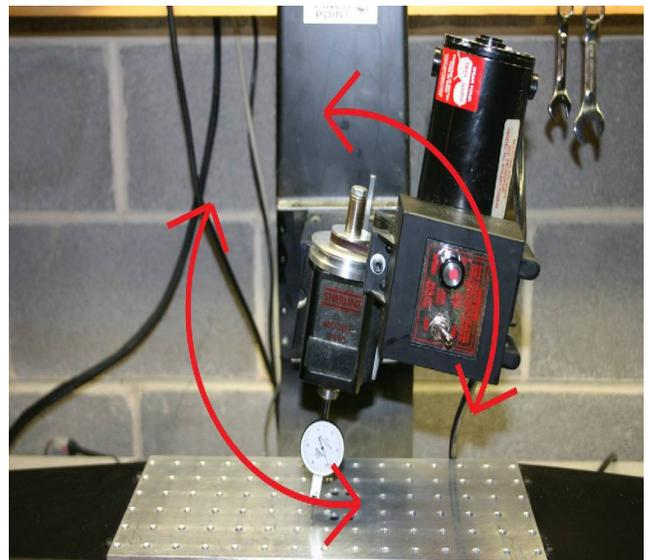

Figure 13
4. Adjust the spindle in a clockwise or counter-clockwise direction until the head is perpendicular, this is shown in figure 13.